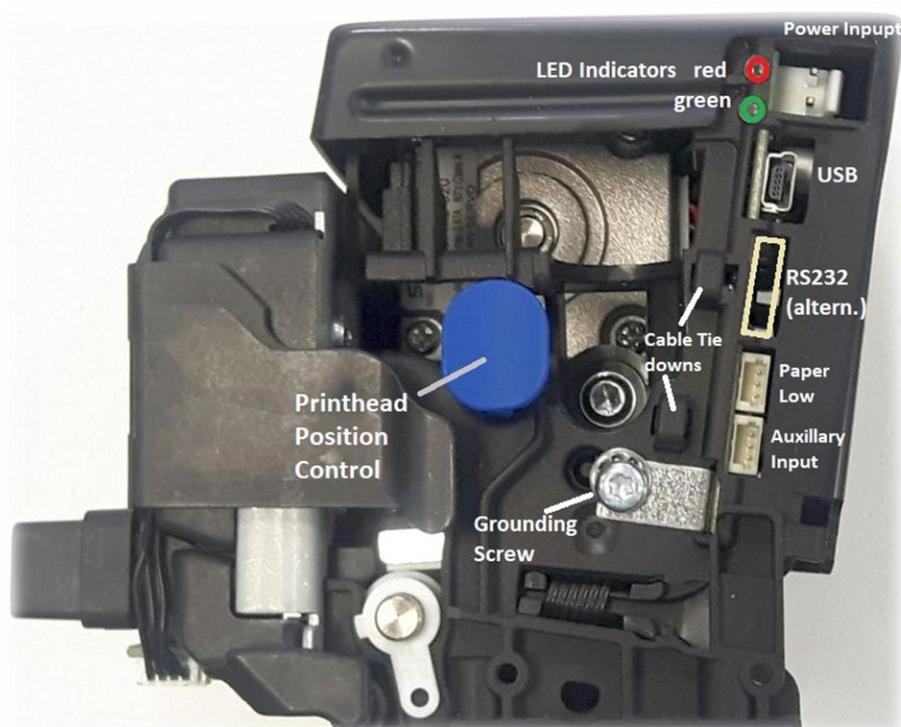
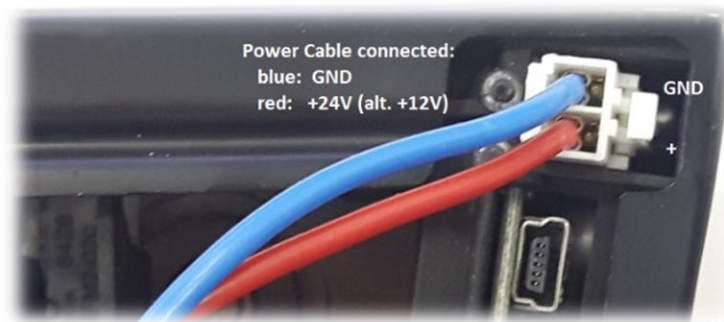

Figure 2
Figure 3
- Figure 2 shows a USB version of the eXtendo® but also shows the alternative serial connector when using a printer with RS232 serial interface.
- Figure 3 shows the upper portion with details about the polarity of the power connector and cable.
There are two LED indicators in the eXtendo® series printers, located as shown in Fig. 2 and Fig. 3. The upper LED is red, and the lower one is green. These LEDs are used to signal various status information concerning the eXtendo® printer. There are several flashing speeds used in the printer LEDs. These are: